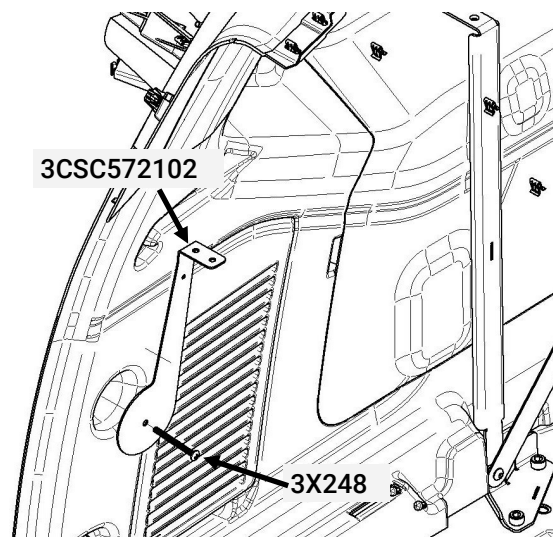

Figure 3
- A. Remove cargo tie-down on driver side, at hatch and fasten rear support bracket [3CSC572102] using M6x60mm Phillips head screw [3X248] as shown (Figure 3).